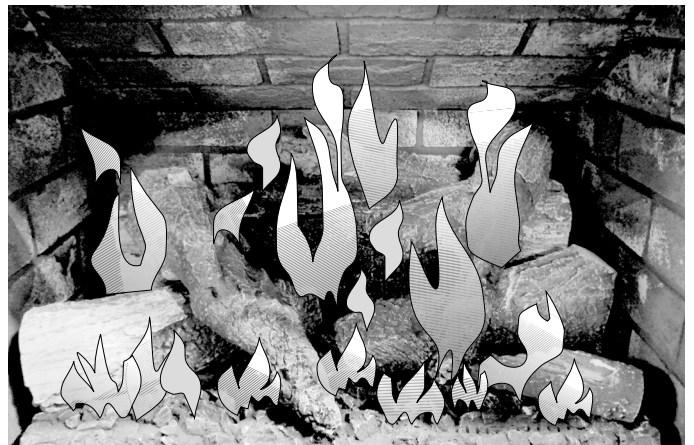

Figure 15.3. Front and Rear Flame Pattern
2. Allow the stove to burn for 30 minutes on the HIGH setting, observing the flame continuously. If the flame appears weak, slow, or sooty, increase the air shutter opening in 1/16” increments until the desired flame picture is achieved. Fig. 15.3